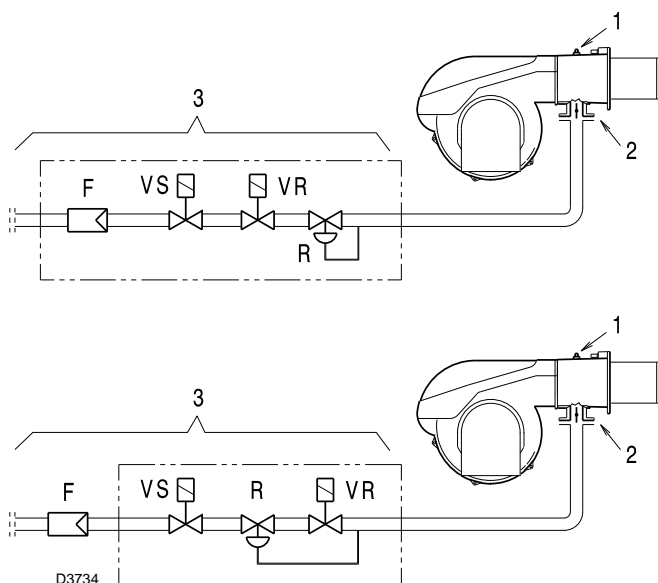

Fig. 19
Gas pressure measured at the test point 1) (Fig. 19), with:
Pressure loss at gas butterfly valve 2) (Fig. 19) with maximum opening: 90°.
Pressure loss of gas train 3) (Fig. 19) includes:
- subtract the combustion chamber pressure from the gas pressure measured at test point 1) (Fig. 19).
Gas pressure at test point 1) (Fig. 19) = 10.5 mbar
To calculate the required gas pressure at test point 1)(Fig. 19), set the MAX output required from the burner operation:
- read, on the right (column 1), the pressure at the test point 1) (Fig. 19).
Pressure required at test point 1)(Fig. 19).